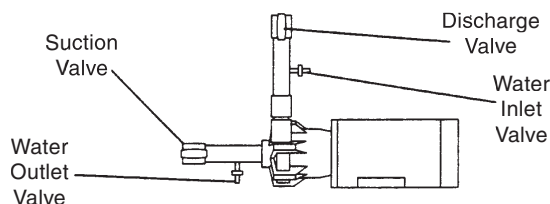

Figure 3
- When pumping liquids which may solidify or crystallize, a flush system should be added to the piping. See Figure 3. Install water inlet and outlet valves as shown.
- Refer to Figure 3.